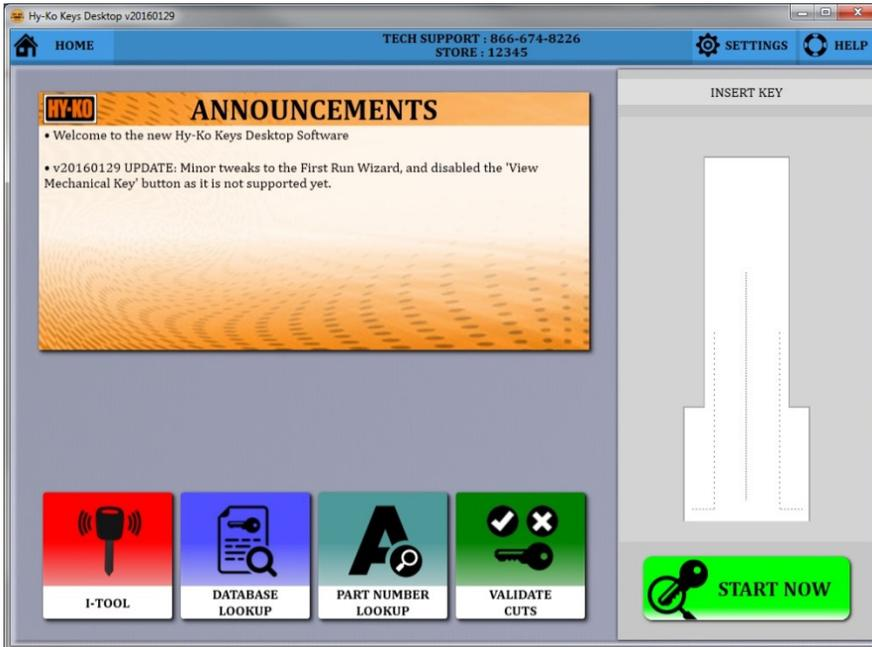

fig. 111
- On the main screen of the software, there are four app buttons at the bottom (see fig. 111).